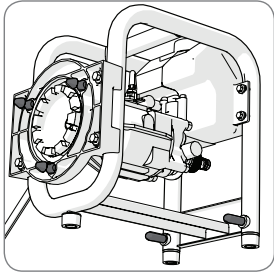

Fig. 11
- Keep the 3 locating pins and 2 stabilising pins clean and occasionally spray coat with a silicone oil based spray. **(Fig. 11)**